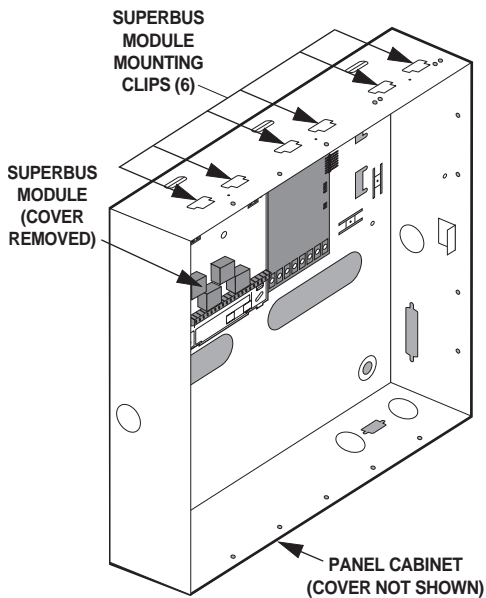

Figure 4. Mounting the Module in a Concord Cabinet
4. Slide the module backplate onto the two module mounting clips located on the top-left, top-center, or top-right corner of the cabinet (Figure 4).